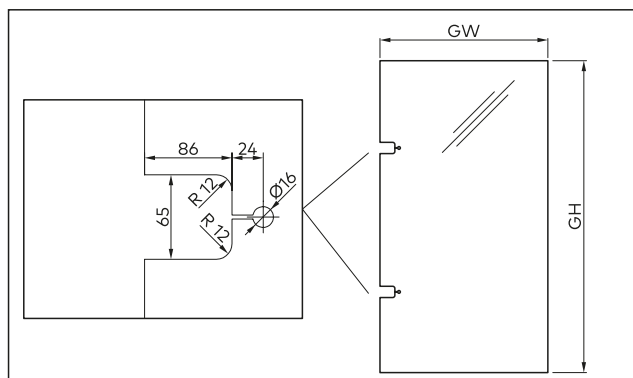

Fig. 41 Glass preparations for wall mounting with surface mounted mounting plate
2. Check the dimensions of glass preparation, see Fig. 41 on p. 16.